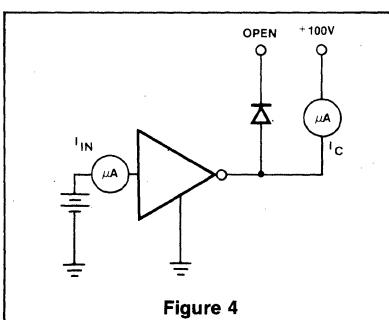
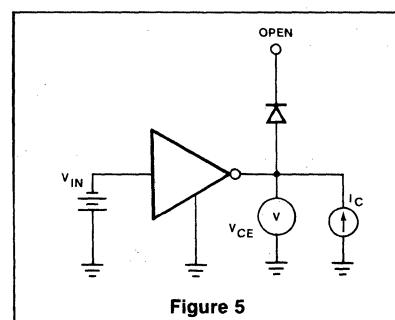

Figure 4
Figure 5
| I_{IN} V_{IN} | Input current (OFF) Input voltage (ON) $I_C = 500\mu A, T_A = 70^\circ C$, Test Fig. 4 $V_{CE} = 2V, I_C = 200mA$, Test Fig. 5 $V_{CE} = 2V, I_C = 250mA$, Test Fig. 5 $V_{CE} = 2V, I_C = 300mA$, Test Fig. 5 | 50 | 65 | 2.4 2.7 3.0 | 50 | 65 — — — | | μA V V V |
| V_{IN} | Input voltage (ON) $V_{CE} = 2V, I_C = 125mA$, Test Fig. 5 $V_{CE} = 2V, I_C = 200mA$, Test Fig. 5 $V_{CE} = 2V, I_C = 275mA$, Test Fig. 5 $V_{CE} = 2V, I_C = 350mA$, Test Fig. 5 | | | | | | 5.0 6.0 7.0 8.0 | V V V V |